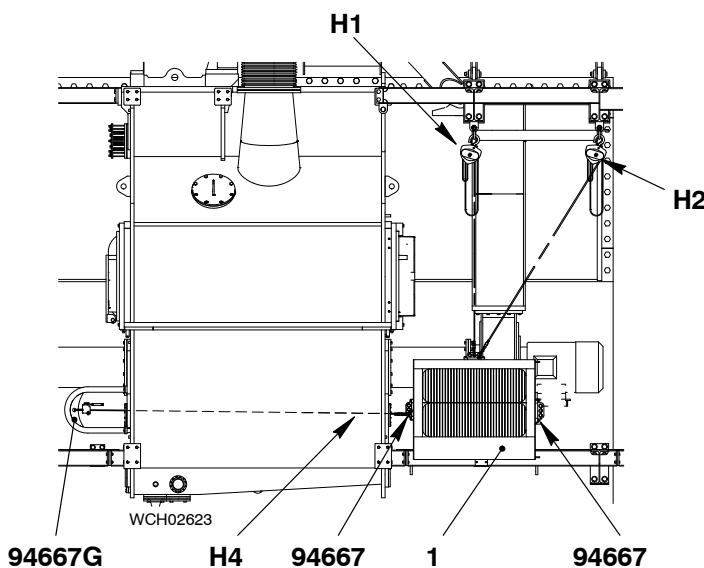

Fig. 11
- 1) Attach the tools (94667, Fig. 11) to the top and front of the water separator (1).